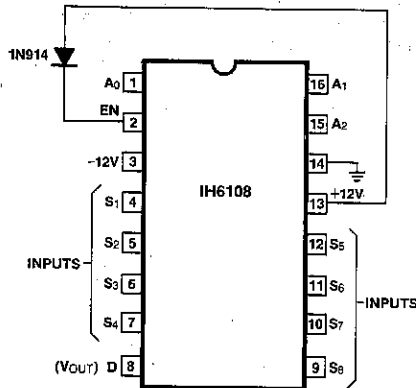

Figure 6. IH6108 Connection Diagram for less than $\pm 15V$ Supply Operation.
Caution must be taken to ensure that the enable (EN) voltage is at least 0.7V below V^+ at all times. If this is not done the Address input strobing levels will not function properly. This may be achieved quite simply by connecting EN (pin 2) to V^+ (pin 13) via a silicon diode as shown in Figure 6. When using this type of configuration, a further requirement must be met: the strobe levels at A0 and A1 must be within 2.5V of the EN
voltage in order to define a binary "1" state. For the case shown in Figure 6 the EN voltage is 11.3V which means that logic high at A0 and A1 is $\approx +8.8V$ (logic low continues to be $\approx 0.8V$). In this configuration the IH6108 cannot be driven by TTL (+5V) or CMOS (+5V) logic. It can be driven by TTL open collector logic or CMOS logic with +12V supplies.